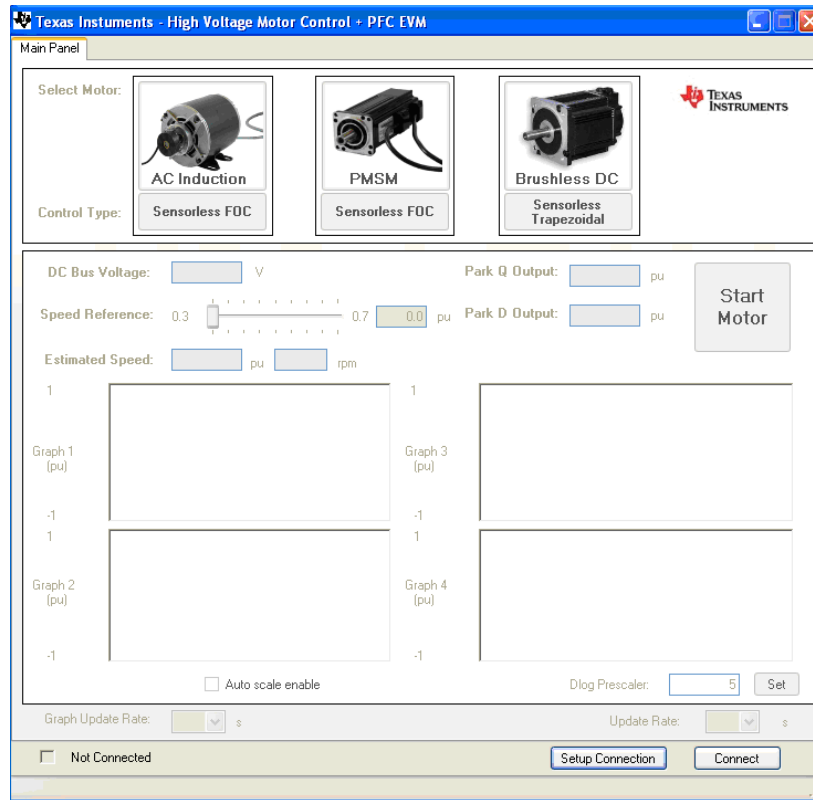

Figure 5. GUI Startup
2. Browse to and double click on HVMTRPFCKIT-GUIv1.exe The GUI window should pop up (Figure 5). If this is the first time using it, you must sign a license agreement. The GUI is divided into the following sections: